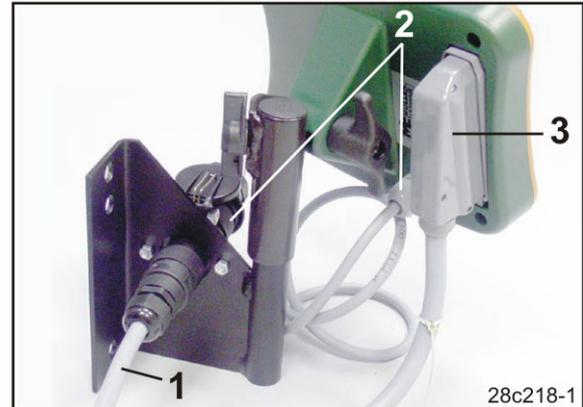

Fig. 19
2. Insert the power cable (Fig. 19/1) into the bracket and the 12V tractor socket.
3. Connect the bracket and the control terminal with the power cable (Fig. 19/2).
5. Route the implement cable into the tractor cab and plug the implement plug (Fig. 19/3) into the terminal.